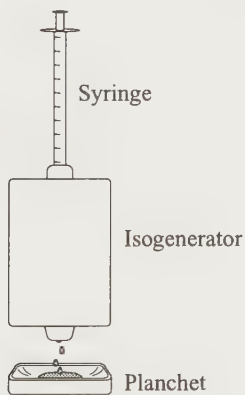

FIGURE 3
5. Place the planchet (small metal dish that will hold the solution containing the radioactive barium-137) under the isogenerator as shown in Figure 3.